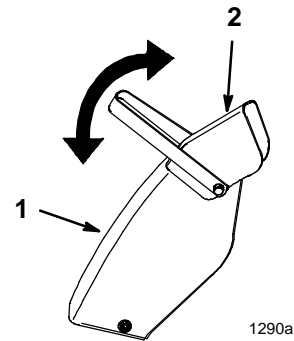

Figure 5
- The chute deflector, on top of the discharge chute, can be moved up and down to control the height and distance snow is thrown (Fig. 5).